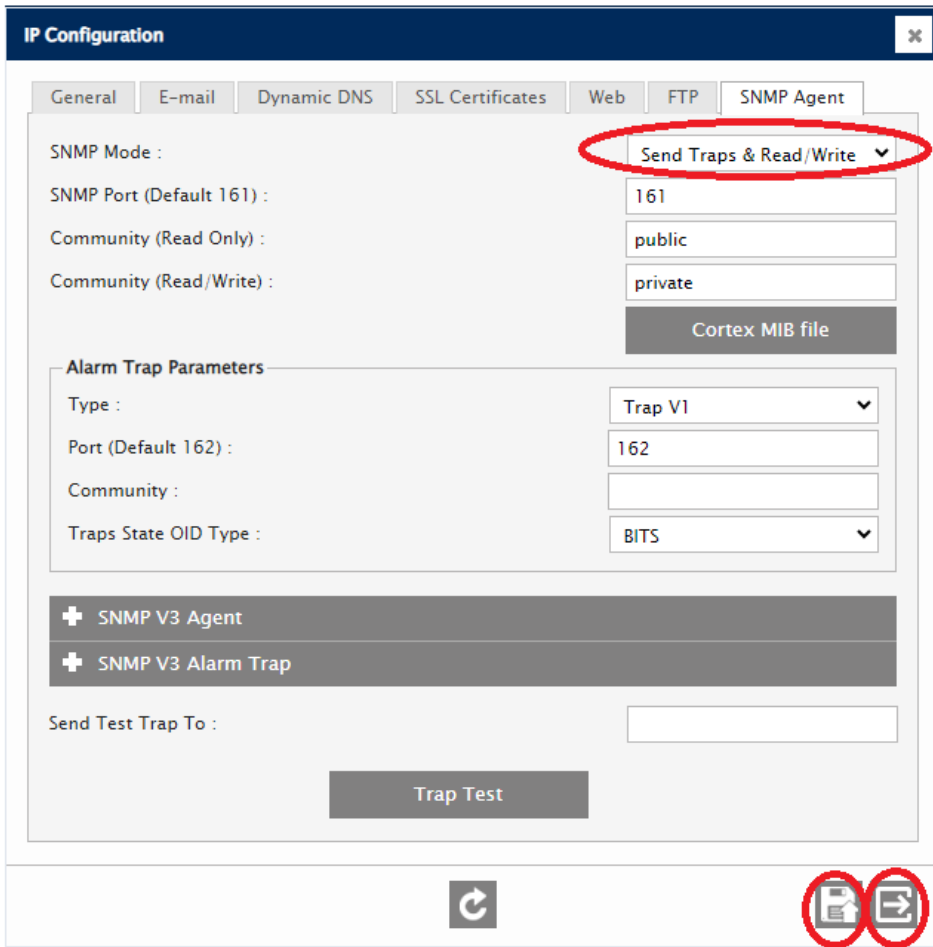

Figure 9: System – IP configuration screen – SNMP Agent tab
- (i) For all systems: select **System ► IP Configuration** from the dropdown menu along the top of the screen. The IP Configuration screen will appear. Select the SNMP Agent tab to display the screen in Figure 9.